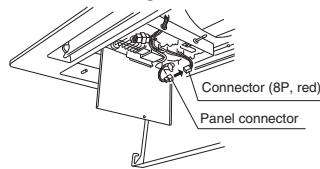

Fig. 7-17
- [4] When installation of the ceiling panel is completed, connect the 8P red connector inside the indoor unit electrical component box to the connector from the ceiling panel. (Fig. 7-17) (If this connector is not connected, the error message "P09" is displayed on the remote controller and the unit will not operate.)